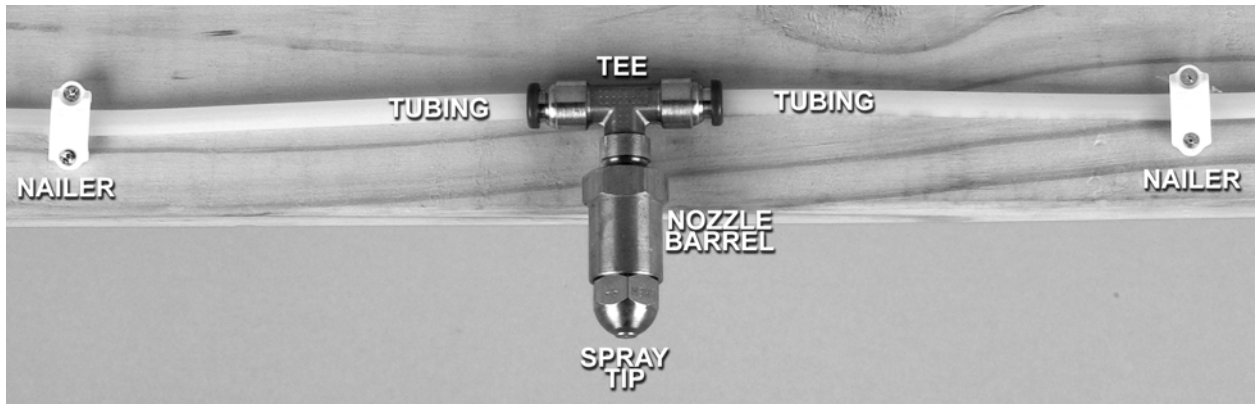

Figure 5 – Spray Nozzle Tee with Tubing and Nailers
15. Push the tubing firmly into the side of the spray nozzle tee (figure 5). Pull gently to confirm that you have secure connections. If leakage occurs, remove tubing by
16. Using the plastic nailers (figure 5) or plastic ties, install the tubing and spray nozzles above the center of each stall and 6 feet inside of each exterior door. Do not install above 15' from the floor. Use cable wire if necessary. Make sweeping turns with the tubing around corners to avoid kinking.